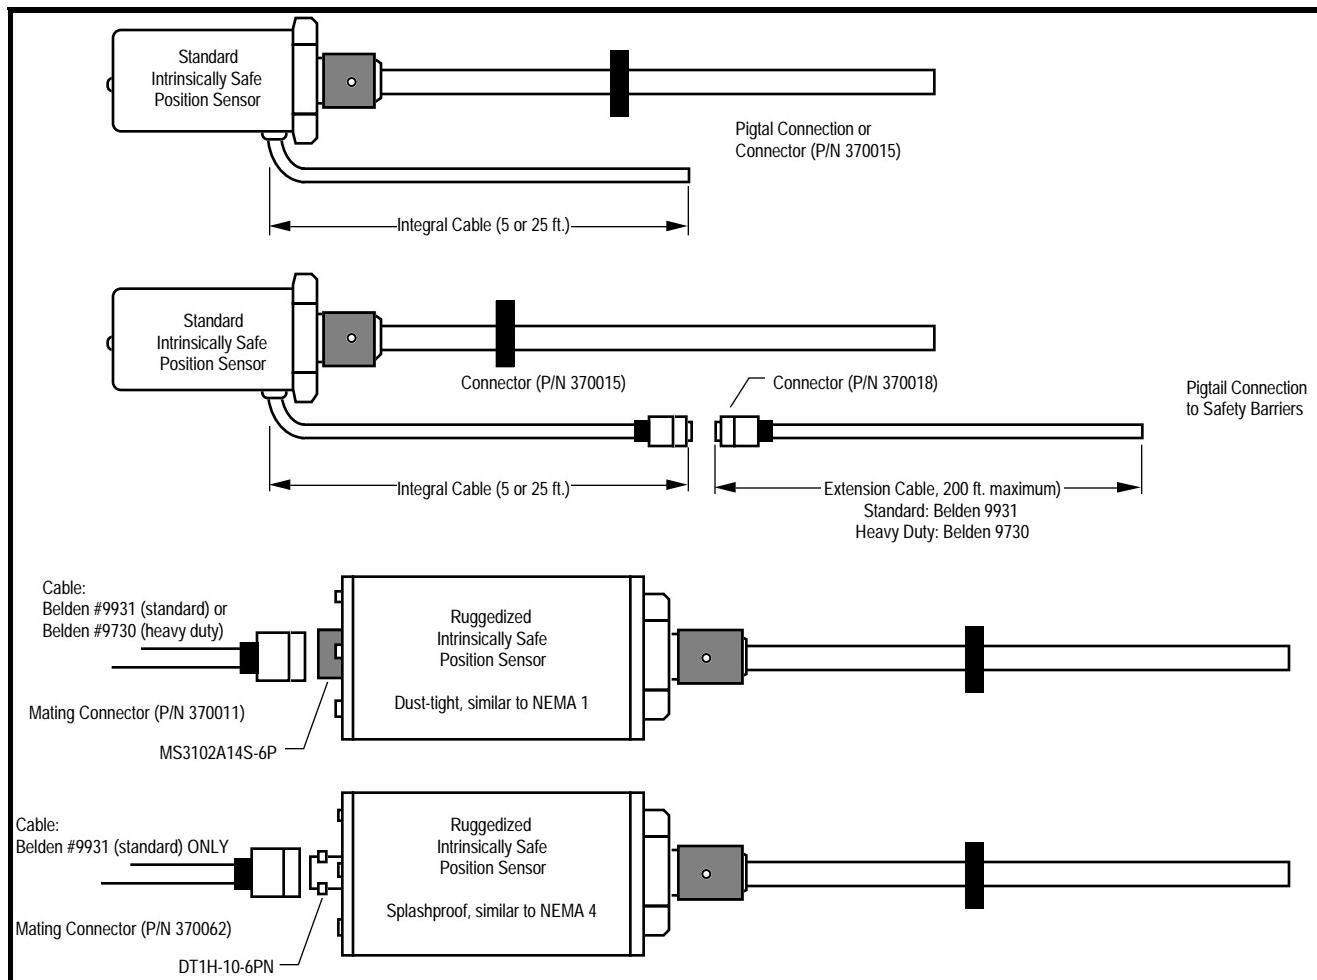

Figure 3.1
(For use with sensor Enclosure Style "2", refer to Section 3.1 above and Figure 3.1 on next page)
*(For use with sensor Enclosure Style "3", refer to Section 3.1 above and Figure 3.1 on next page.